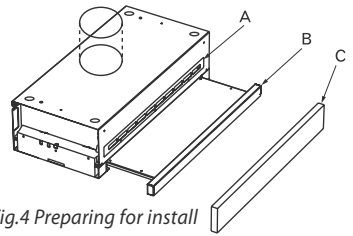

Fig.4 Preparing for install
- 1 Do not remove the knockouts shown in Fig.4. These are removed for ducted options only.
- 2 Remove Cover Tape "A". See Fig.4.
- 3 If a 70 mm handle is not installed (depending on model purchased), remove front handle "B" by undoing the 3 screws on the fascia (see Fig. 4).
- 1 Remove the appropriate knockout to suit top venting, as shown in Fig.4
- 2 Do not remove Cover Tape "A". See Fig.4. This is removed for recirculating only.